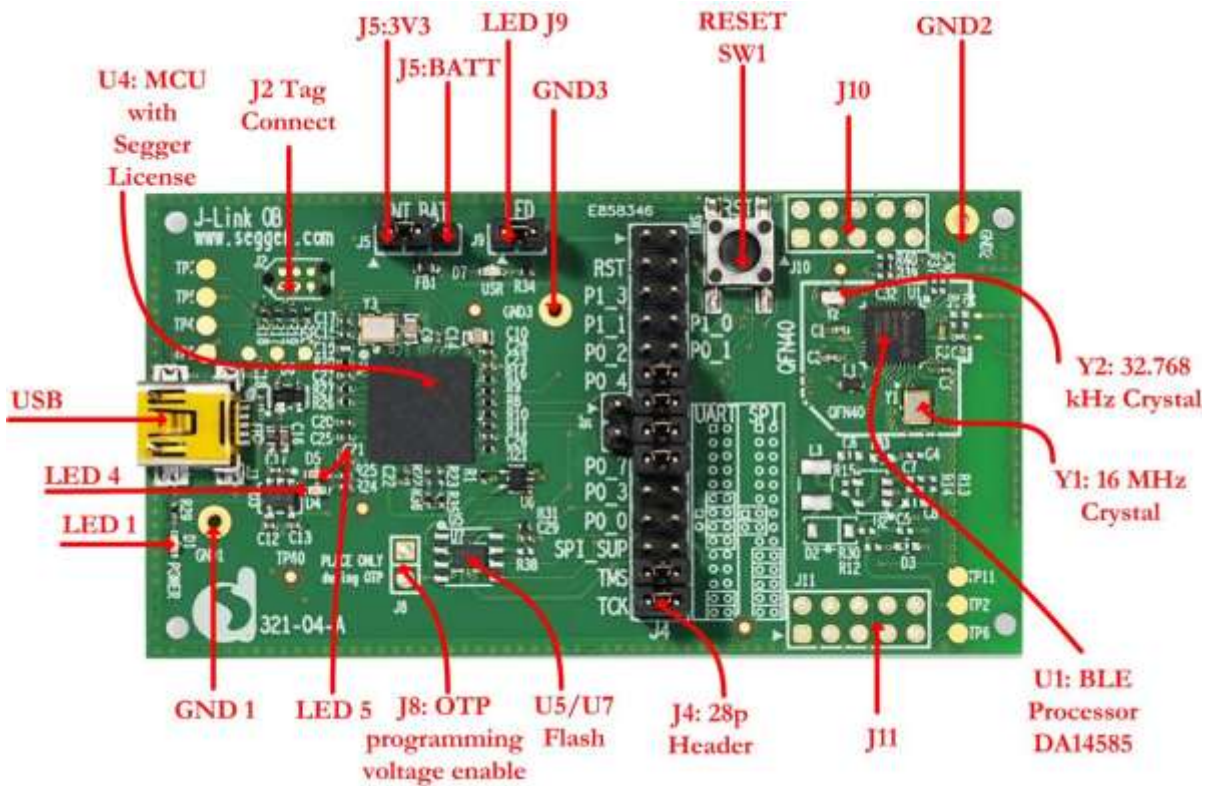

Figure 6: DA14585/586 Basic Board layout
The layout of the basic board is displayed in Figure 6.
**Note:** The basic Kit is connected to the host PC over the connector marked as USB (J3), as shown in Figure 6 using a standard mini-USB cable.
1. Connect the Basic Development Kit board to the PC via USB cable. The location of the board's USB port is shown in **Figure 6**.